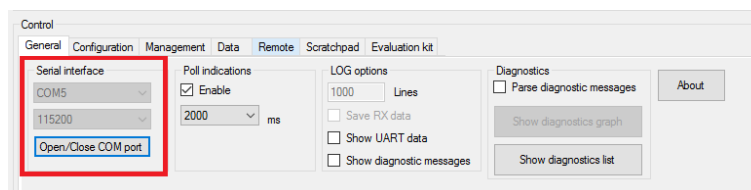

Figure 1: Open COM port
- b) Select the right COM port of the Thetis-I evaluation board and press the "Open/Close COM port" button (see figure 1).